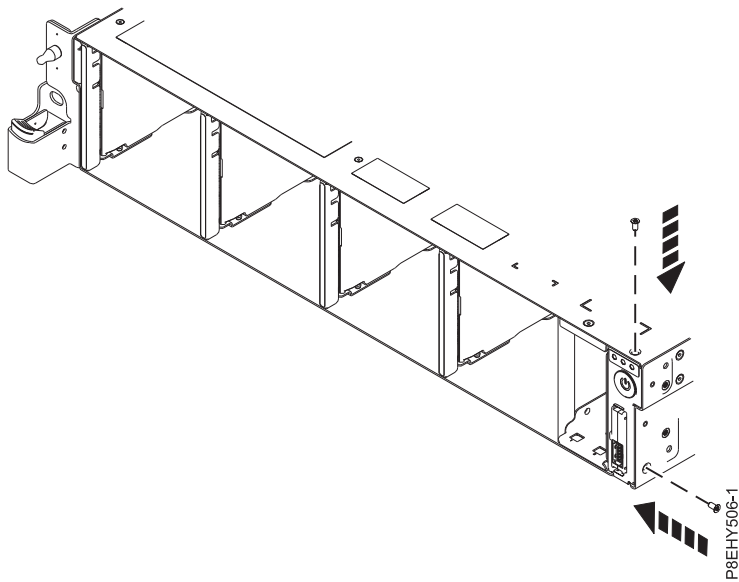

Figure 110. Replace the top and side screws
5. Replace the top and side screws for the power switch as shown in Figure 110.